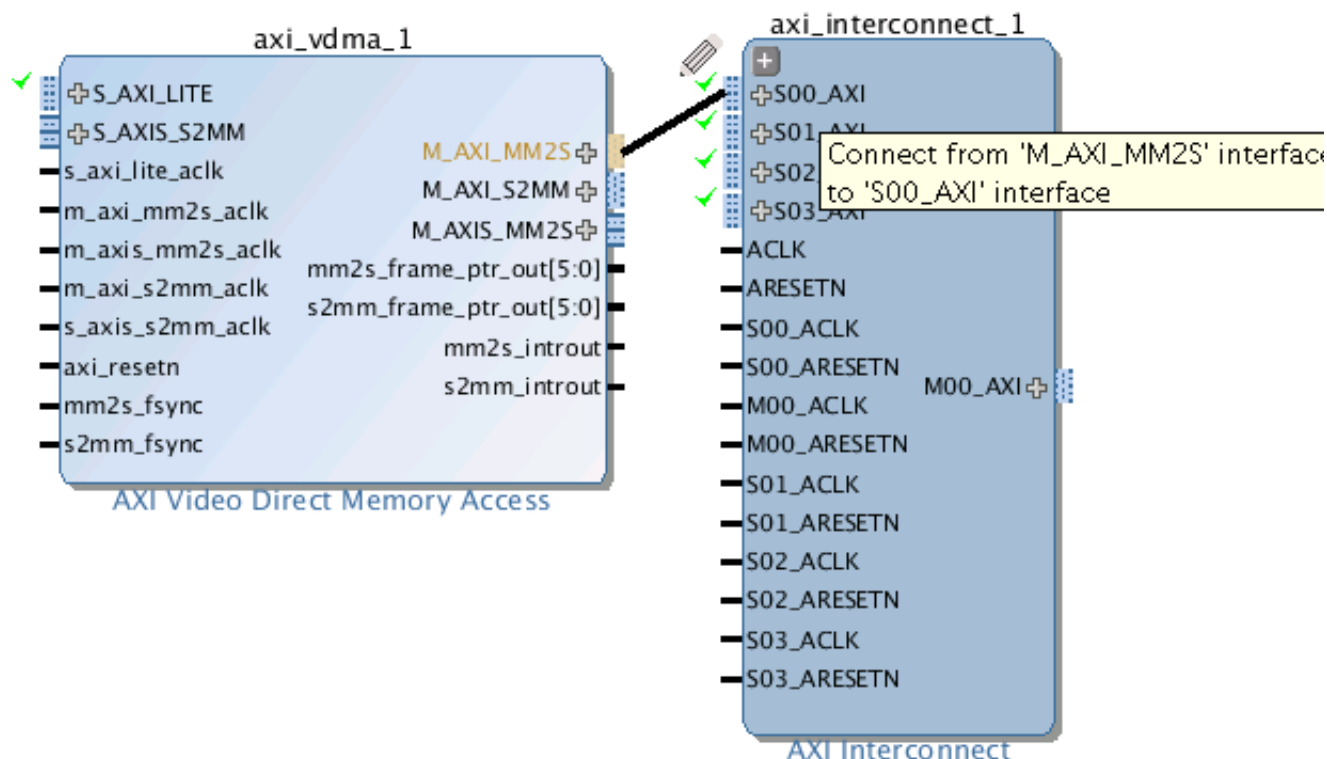

Figure 52: Connecting Buses in the Block Diagram
1. To make connections between modules, click the port of the module, hold the mouse and drag it to the destination port of another module. If one port has the same type as the source and can be connected with it, there is a green check marked beside the port (Figure 52).